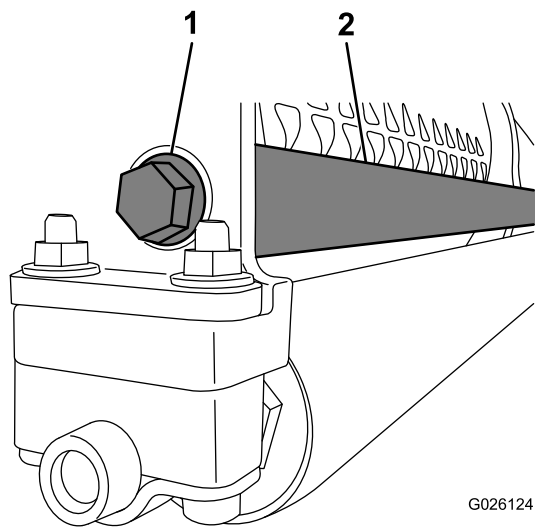

Figure 15
4. Secure the threaded end of the weight rod to the frame using a flange-head bolt (Figure 15).